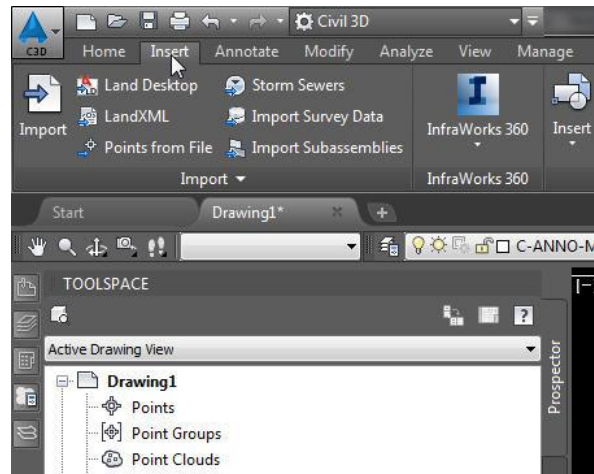

Figure 27: Select Insert Tab in Civil 3D
- Select the Insert tab (Figure 27)